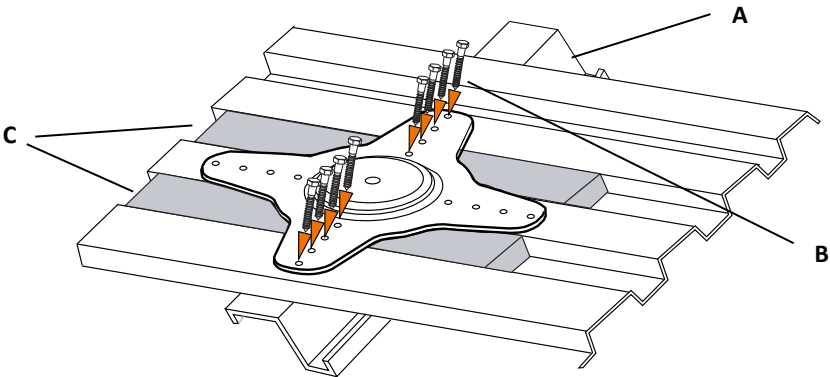

Figure 6 - Steel Z-Purlin Substrate Installation
- 2. Place the anchor onto the deck over the Z-purlin in the orientation shown in Figure 6. Note that the complete line of eight (8) screws shall engage fully with the center of the Z-purline. Use wood spacers in the deck as shown to fill the gaps as needed for the installation location desired.
- 3. Install the Rotating D-Ring anchor into the steel Z-purline through the deck using only eight (8) provided 1/4"-14 thread, 2-1/2" length Self-Tapping Screws. Screws must be long enough to have a minimum of five threads protruded through the backside of the steel deck or metal roof. Be careful not to overtighten the screws, which may strip out the metal and weaken the structure. Use of any fastener other than those specified by FallTech requires approval by a Qualified Person or Professional Engineer.